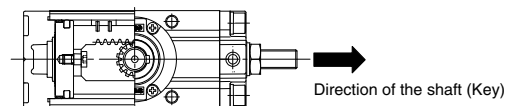

Fig. 3 Direction of the assembly of the shaft
- 2-2. Mount the tube gasket ⑪ to the left cover ③ to mount to the body ①. Tighten them with the hexagon socket head cap screw with washers ⑮.
- 2-3. Insert the rack ⑥ and the piston ④ and ㉓ into the body. Set the lower bearing ⑭ to the housing in the body. At this time, the piston assembly should be inserted carefully so as not to damage the piston seal ⑫ through which the housing for the bearing of the body will pass.
- 2-4. Push the rack and the piston until it touches the left cover. Mount the shaft ⑤ to the body. Refer to Fig. 3 for the direction of the keyway (facing to the right cover ㉒).
- 2-5. Mount the upper bearing ⑭ and the bearing retainer ⑩ to the shaft and the body. Tighten them with the cross recessed round head tapping screw ⑰.
- 2-6. Mount the seal washer ④① and the hexagon nut ④② to the hexagon socket set screw ④③ to mount the angle adjustment collar ㉘ of the right cover.